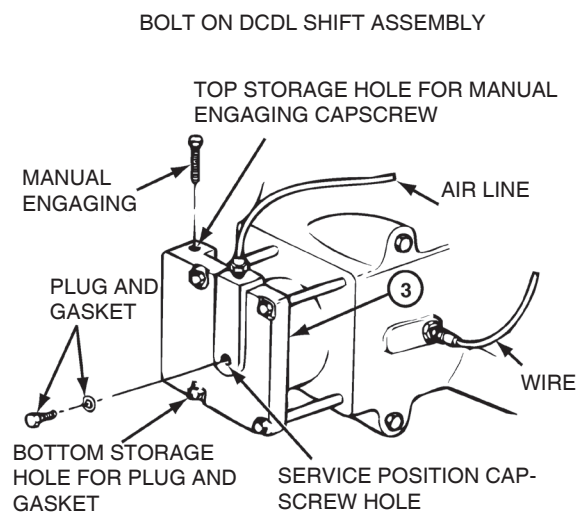
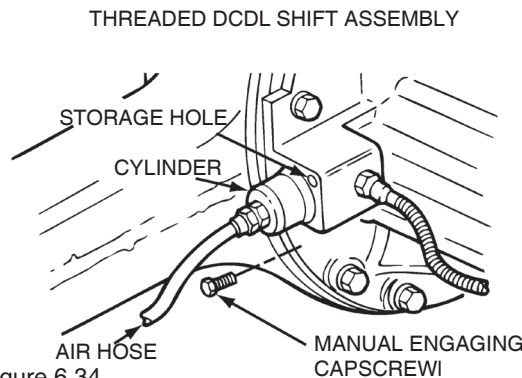

Figure 6.33
Figure 6.34
11. Install the manual engaging capscrew into the DCDL storage hole in the fixed capscrew or the Threaded DCDL assembly. Figure 6.33 and Figure 6.34.
Install the short plug and gasket into the service position hole in the center of the DCDL. Figure 6.33..
- B. On a Threaded DCDL shift assembly, install the short screw or plug into the storage hole located in the top of the Threaded DCDL shift assembly. Figure 6.34.
4. Connect an air line to the main differential lock actuator Figure 6.33 assembly coupling.